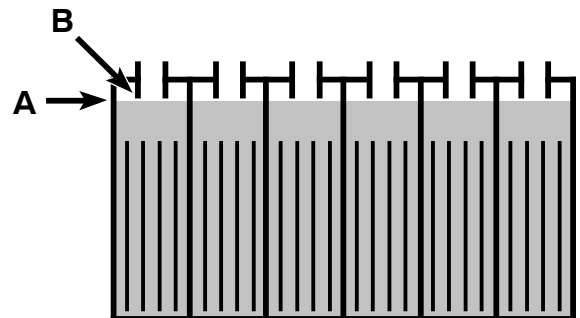

FIG. 25
8. After charging, check the electrolyte level (A) again. The level should be approximately 1 cm from the bottom of the fill- port (B) (Figure 25). Add distilled water if needed. DO NOT OVERFILL.